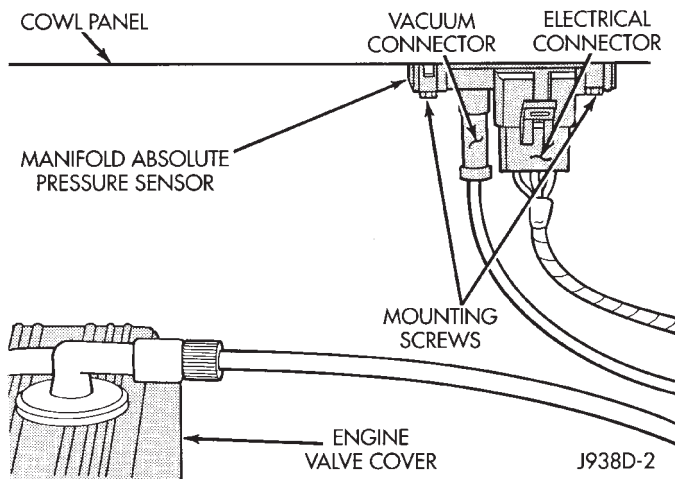

Fig. 27 MAP Sensor—4.0L Engine
The sensor is located on the cowl panel near the rear of the engine valve cover (Fig. 27) if equipped with the 4.0L engine.
(1) Disconnect the sensor electrical connector (Fig. 27).
(2) Disconnect the sensor vacuum supply hose.
(3) Remove the two sensor mounting screws and remove sensor from vehicle.